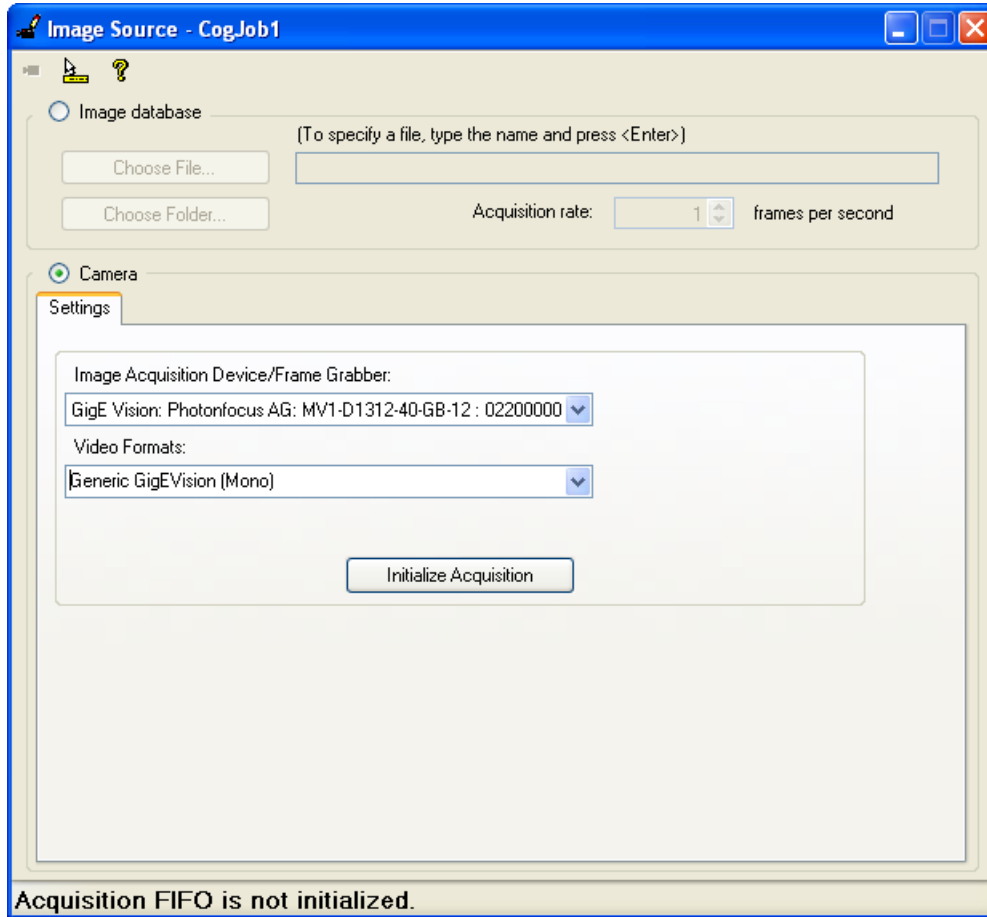

Figure 3.8: VisionPro Image Source selection
3. In the Image Source window select the Camera radio button, select the camera in the in the Image Acquisition Device/Frame Grabber drop-down list and select the Video Format (e.g. Mono) (see Fig. 3.8). Click on Initialize Acquisition.